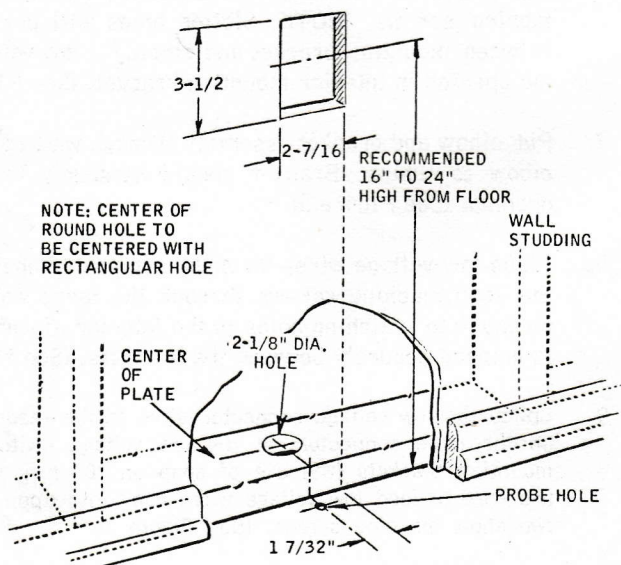

FIGURE 3
3. Access hole for tubing should be between studs and located front to back (as shown) in the plate to align with the exhaust or belled end of the 90° elbow of the valve assembly. (See Figure 3)
4. Cut the tubing access hole in the plate. Also cut the valve opening in the finished wall in the proper related position. (See Figure 3)